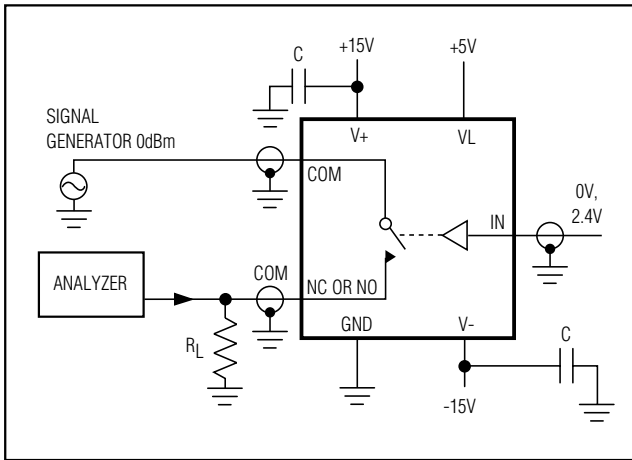

Figure 5. Off-Isolation Test Circuit
**Note 6:** See Figure 5. Off Isolation =  $20 \log_{10} [ V_{COM} / (V_{NC\ or\ VNO}) ]$ , VCOM = output, VNC or VNO = input to off switch.